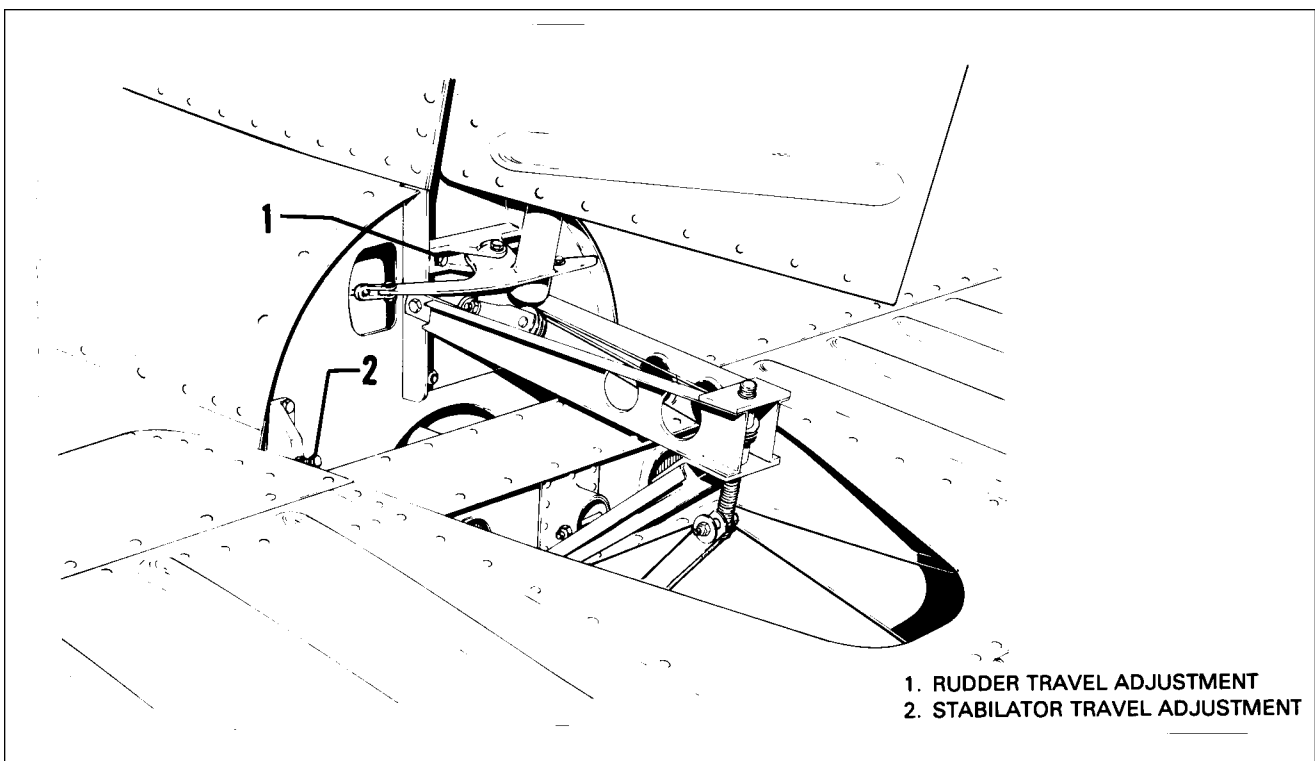

Figure 27-12. Rudder and Stabilator Travel Adjustments
- D. Should the rudder travel be incorrect showing a gap between the tool and any part of the control surfaces, the tail cone fairing should be removed and the stops reset to obtain correct rudder travel. (Refer to Figure 27-12.)
- D. Should the stabilator travel be incorrect in either the up or down position, remove the tail cone fairing by removing the attaching screws and with the use of the rigging tool and bubble protractor turn the stops located at each stabilator hinge in or out. (Refer to Figure 27-12) to obtain the correct degree of travel.